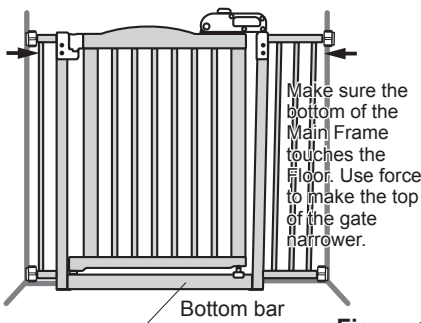

Figure 1
- The bottom of the product should contact the floor for safety as shown in Figure 1.
If necessary, use force to make the top of the gate narrower to fit between the wall as shown in Figure 1.